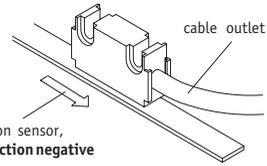

Fig. 6: Definition of counting direction / mounting
- **Sensor must be aligned correctly with respect to the counting direction** (see fig. 6). This can be ignored if counting direction can be changed via the follower electronics (eg. by magnetic display